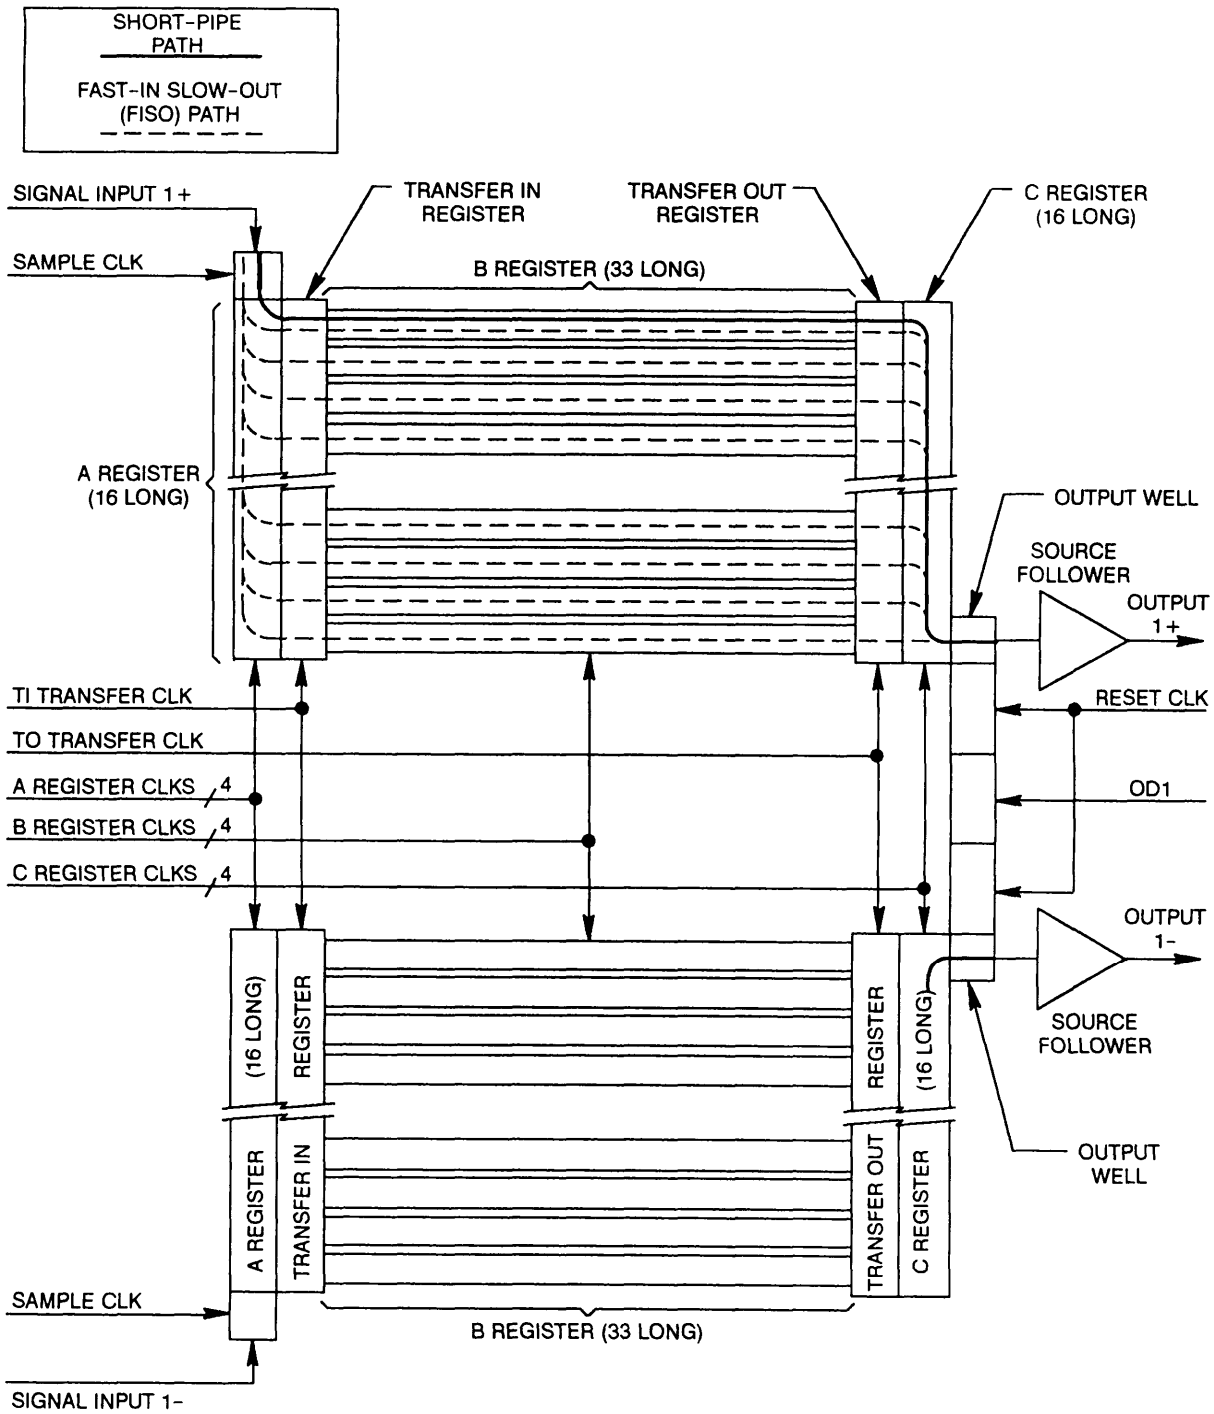

Figure 3-5. Simplified CCD architecture.
A simplified diagram of one-half of one CCD is shown in Figure 3-5. The half shown, the SIG1 side or Side 1, is nearly identical to the SIG3 side (Side 3) of the CCD. Each side provides temporary storage of 528 analog samples for a total storage of 1056 samples of a single channel. The extra samples above that needed for the 1024-byte waveform record are needed for proper clock switching between the Fast-In and Slow-Out portions of the FISO cycle. The CCD has a Serial-Parallel-Serial (S-P-S) architecture. Each side has a 16 sample serial input 'A' register, a 16 x 33 sample parallel storage "B" register, and a 16-sample serial output "C" register. Two such SPS sections are shown in Figure 3-5.
An extra input gate is added to Side 3, the other side of the CH 1 CCD (not shown in fig. 3-5) to accept the Side 3 charge packets and permit their movement through the CCD to be synchronized with the Side 1 samples. The SAM3 Sample clock (opposite in polarity to the SAM1 Sample clock) performs the sampling function of the SIG3 signal. This sampling scheme doubles the effective sample rate of the CCD. Thus, the 100 megasample per second sampling rate is achieved with 50 MHz "A" register clocks. All register gates are driven with bipolar square-wave signals of + 5 V to -5 V. The  $\overline{\text{RESET}}$  clock signal also switches between + 5 V and -5 V, but it is HI for only 200 ns of the total 2  $\mu$  period.
The Short Pipe mode of the CCD is in effect at SEC/DIV settings of 100 ps and slower. The CCD is operated at a continuous 500 kHz rate. Samples are shifted serially through the CCD via one B register channel only. The TI clock toggles continuously to move the sample charge packets from the first A register position into the active B register channel, shown in Figure 3-5 as the Short-Pipe (slow-in, slow-out) path.
**FISO MODE.** As explained in the CCD description, each CCD is made up of two identical differential channels using a serial-parallel-serial (SPS) structure. Samples are moved into and shifted within the CCD using properly phased, overlapping clocks. Figure 3-5 shows a basic CCD structure (see CCD description, fig. FO-18).